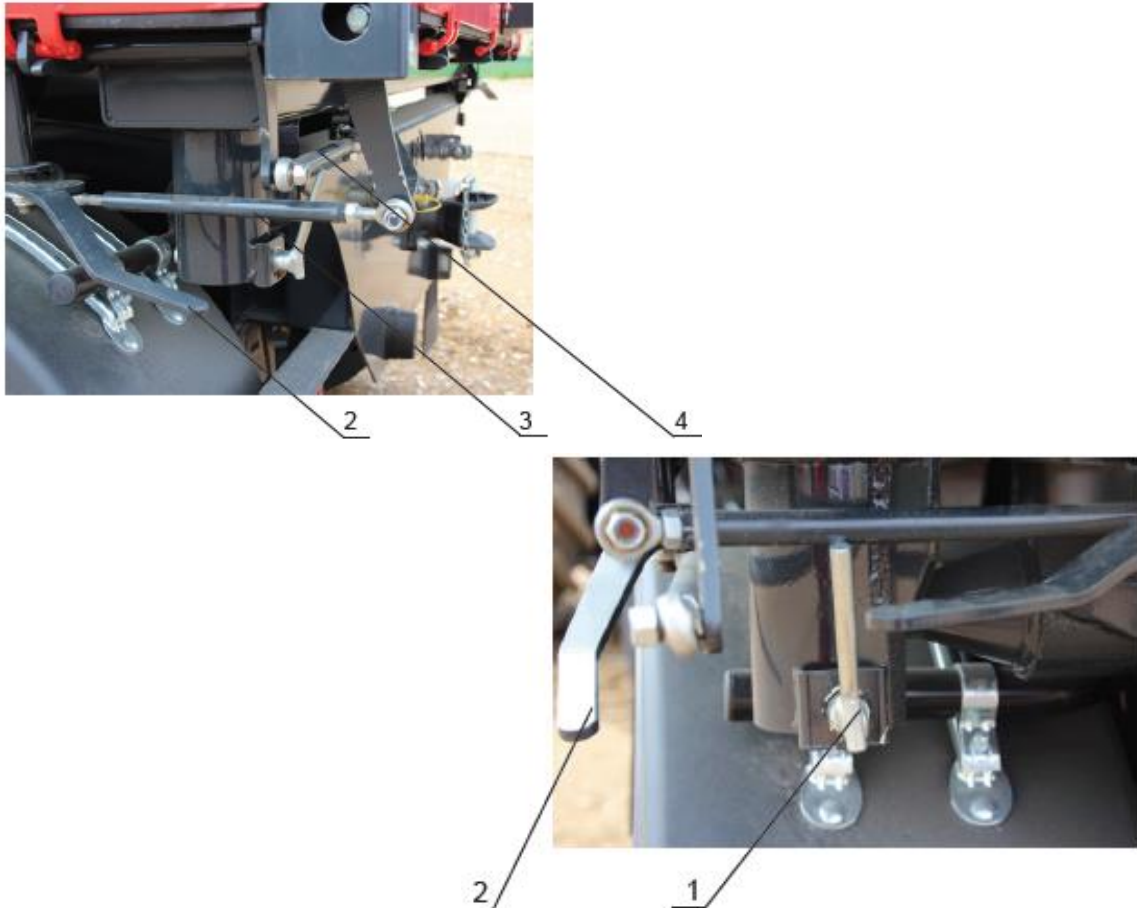

Figure 16. The locks on the boards of the load-carrying body:
- remove the pin connecting the load-carrying body to the chassis frame (Figure 16):
- a) when unloading to the rear – the pins (Fig. 16) must remain in the rear sockets of the body;